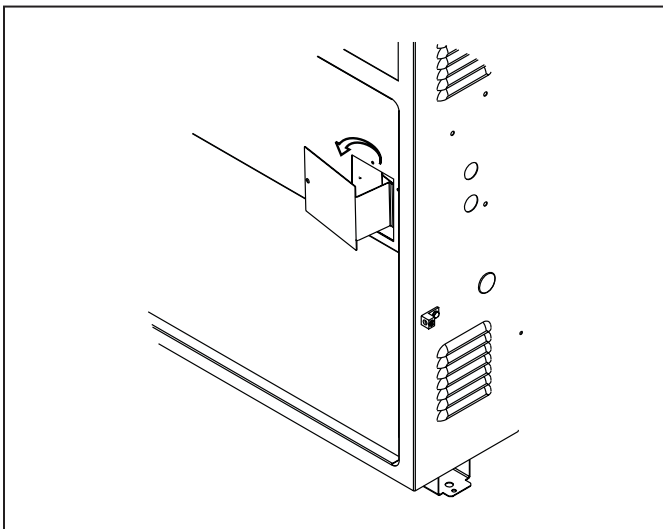

Figure 2. Installation of the Igniter Box Cover Bracket
1. Rotate the igniter box cover counter-clockwise 90° and slide the insulation portion of the bracket between the inner panel and the combustion chamber panel. See Figure 2.